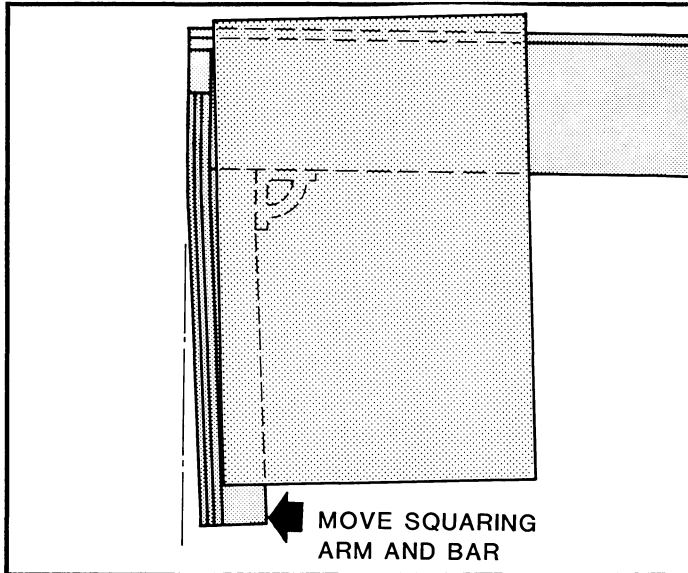

FIGURE 9-29 - Align squaring arm bar
- A. Sheet lays on table and against the squaring arm bar as shown on Figure 9-29.
1. Loosen or remove anchor bolts for squaring arm leg. Loosen the bolts which fasten the squaring arm gusset to the table and channel. Loosen the nuts which fasten the squaring arm channel to the table. Move squaring arm channel to the left as shown on Figure 9-29 until the sheared edge is tight against the squaring arm bar full length. Remove full length sheet. If possible, re-install and tighten the anchor bolts. Do not install new anchors for the bolts at this time.